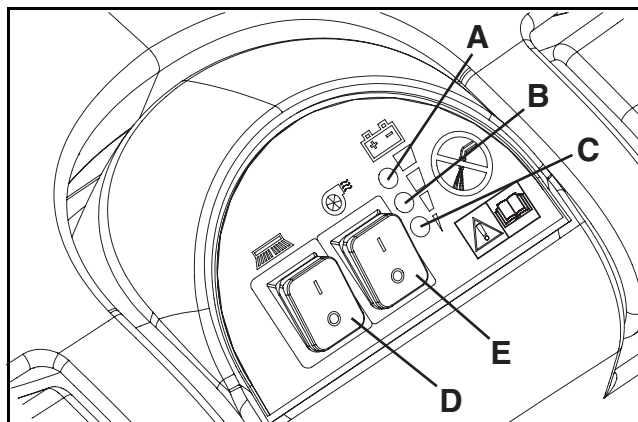

Figure 17
4. Until the green indicator light (A, Fig. 17) stays on, the batteries allow the machine to operate normally. When the green indicator light (A) turns off and the yellow (B) and red (C) warning indicator lights turn on in sequence, it is necessary to charge the batteries.
1. Turn the brush/pad rotation switch and the water vacuuming switch (D and E, Fig. 17) to the "0" position.